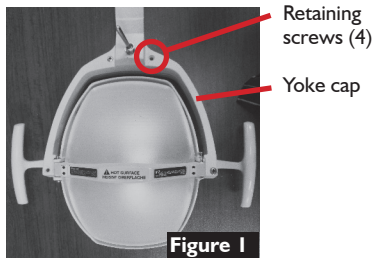
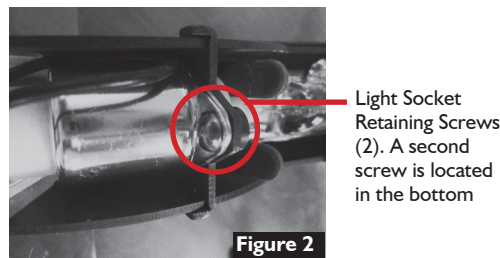

Figure 1
Figure 2
- 1 Remove yoke cap retaining screws (4), yoke cap and undo wire nuts. **See figure 1.**
- 2 Remove screws (2) retaining the light socket bracket assembly, open the reflector and remove the light socket bracket assembly.
- 3 Remove the light bulb and old light sockets. Light sockets are retained in place by two screws. **See figure 2.**
- 2 Squeeze the sides of the plastic shield and pull one end out of the retaining plate. See figure 1.
- 3 Remove retaining screws (2) and remove handle assembly, Save parts for use in step 10. See figure 1.
- 5 Remove hex stand offs and pull light socket bracket assembly, careful to not loose tension springs. See figure 2.